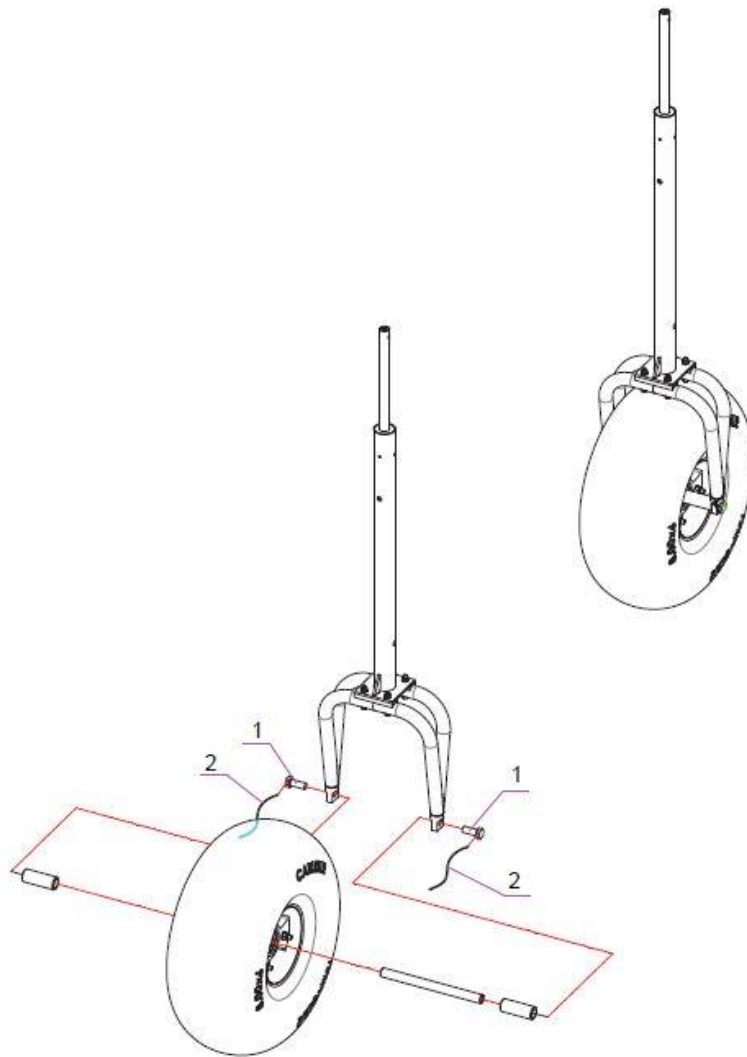

Figure 2.4.4.1: Nose wheel installation
2. Assemble as shown in figure 2.4.4.1.